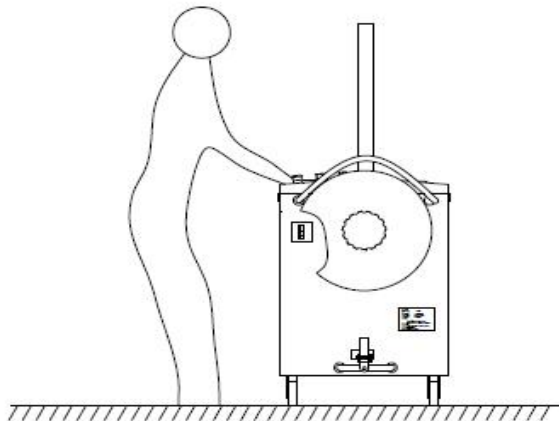

Fig1-1
1.5 Stand position of operation (refer to Fig 1-1)